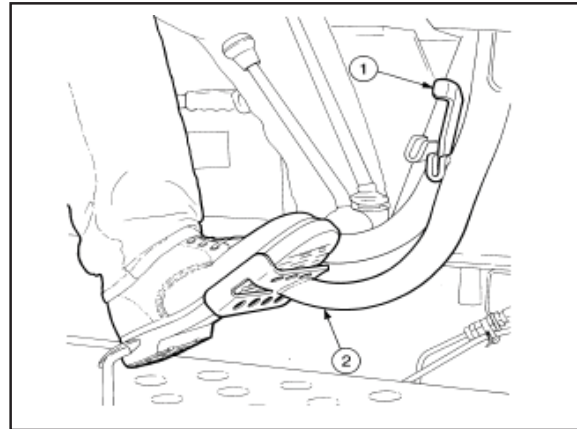

Fig. 51
1. Release the brake pedal latch, (1, Fig. 51)
2. Apply the brake (2) on the side to which the turn is to be made and turn the steering wheel.